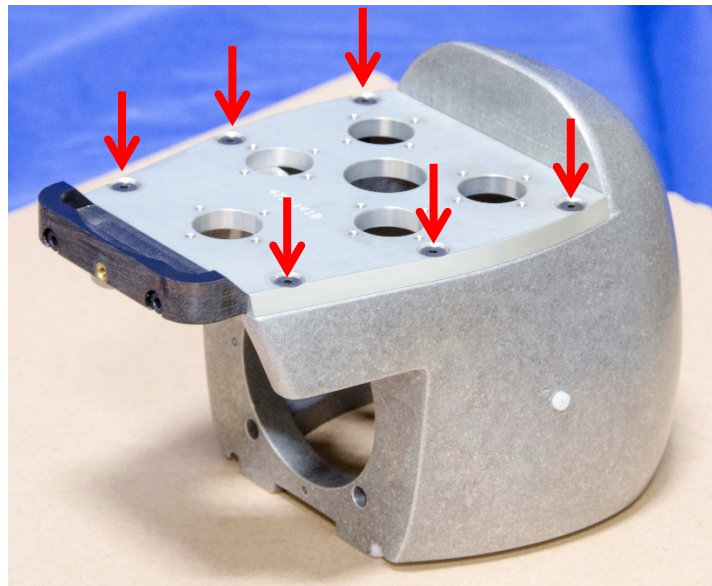

Figure 3-8. Face plate assembly
- 3.2.2.6 Attach the Face Plate (472-1410) to the Head Skull assembly (472-1111) using six M4 x 0.7 x 16 FHCS as shown in Figure 3-8.